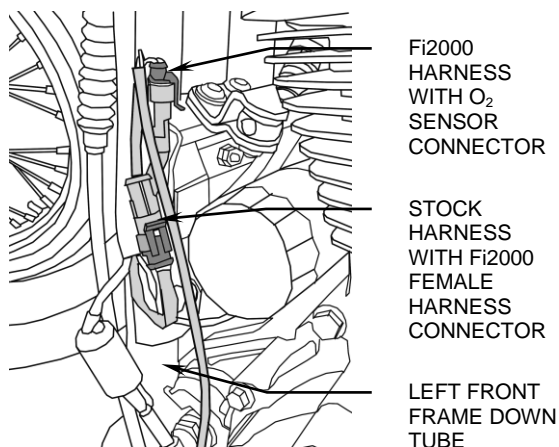

FIGURE 3
7. Now route the longer O₂ harness down and forward along the left side bottom frame rail. Ziptie the harness in 3 places. The connectors will end up at the front O₂ connection. Unplug the factory connection and again plug the corresponding Fi2000 connectors into the matching Harley connectors. Use one ziptie and the factory U-clip to hold the connections to the frame down tube. See Figure 3.